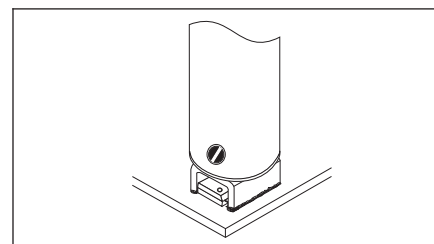

Figure 4 Melt All Joints
9. Confirm solder melt of ALL joints and lift component from PCB. (See Figures 4 & 5.) (Surface tension of the tip should lift the component from the board. If this does not occur, use of tweezers to lift the component is optional.)